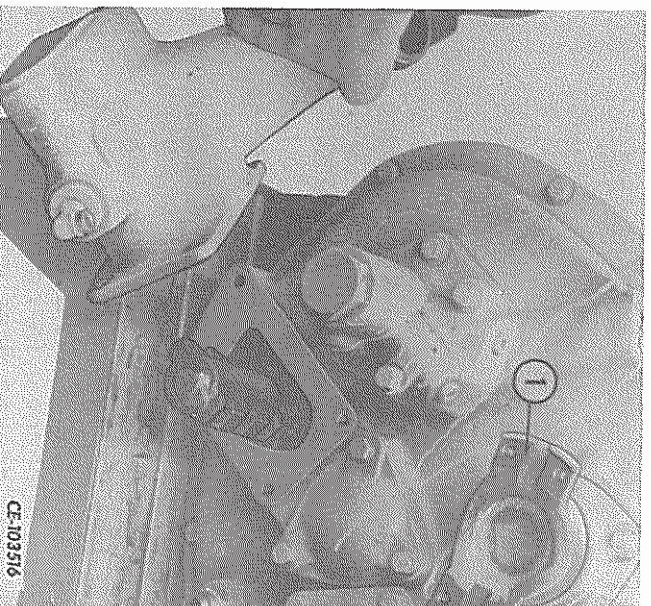

FIG. 93 — Installing the Hi-Lo Shifter Housing
70. Install the drive yoke (1, Fig. 93) on the forward clutch shaft splines.
73. Install a new shifter housing gasket and secure the shifter housing to the front cover (Fig. 93).